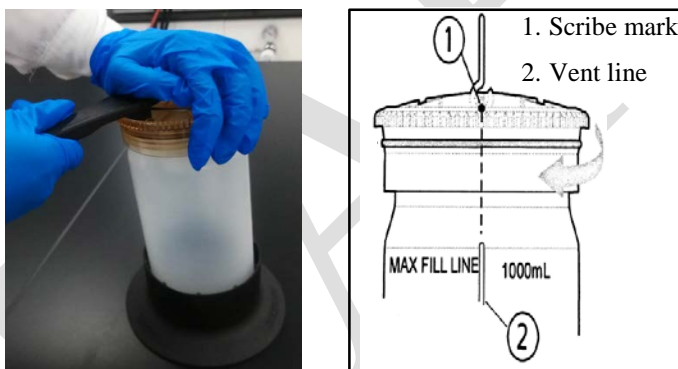

Fig.6 Tightening the closure
- Place a plug on the bottle, then place a closure over the plug and tighten firmly, to where the scribe mark is as closely as possible aligned with the vent line on the bottle, or beyond the line if possible (fig.6).